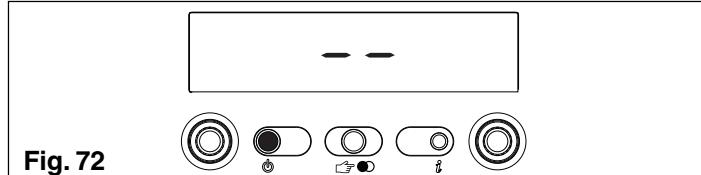

Fig. 72
⚠ The parameters must be programmed with the boiler in the OFF position. To do this, press the  button until the display shows “- -” (fig. 72).
To reset, press the  button (fig. 72).
**⚠ CALIBRATION & SERVICE** operations must be performed with the boiler in the OFF position. To do this, press the button until the display shows “- -” (fig. 40 C.A.I. -MIX C.S.I.; fig. 72 R.A.I. - MIX R.S.I.).